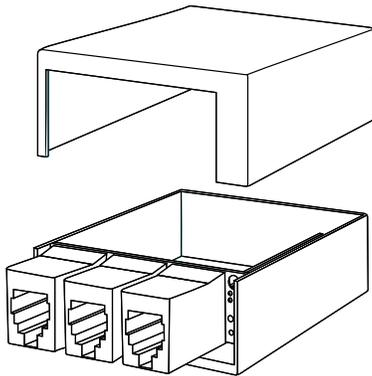

Figure 8
1. Remove the cover from the interface box (Figure 8).
3. Remove the cover from the second interface box (Figure 8).